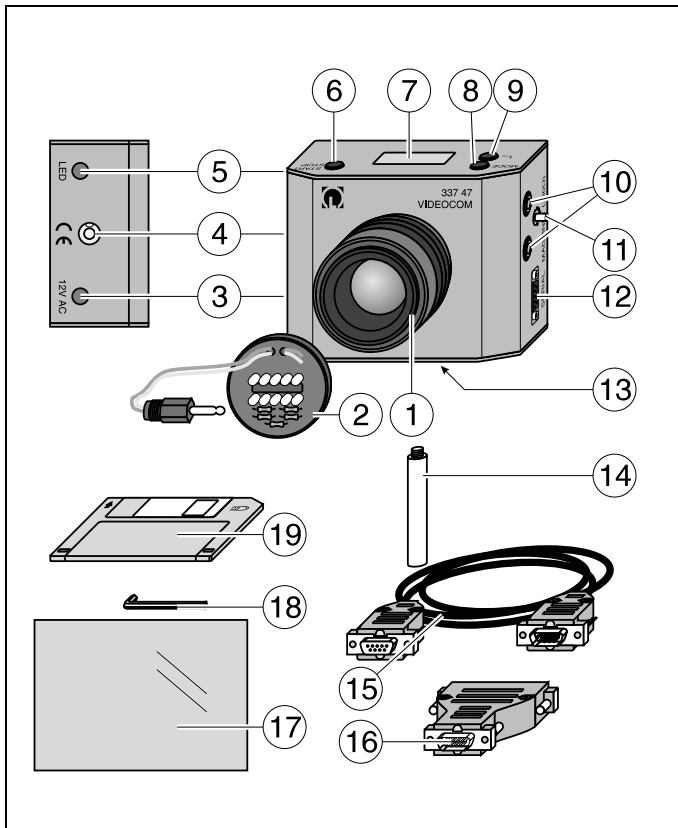

Fig. 2
2.1 VideoCom (337 47), see Fig. 2
- ① 50 mm lens, attached via hex screw on housing
- ② LED flash, for screwing onto lens (adjustable frequency and intensity); connected to jack ⑤
- ③ Connection socket for supply voltage (12 V AC) from plug-in power supply with cannon plug (e.g. 562 791)
- ④ Spirit level for vertical alignment of VideoCom (e.g. for determination of gravitational constant using the falling body (337 472))
- ⑤ Jack for connecting LED flash ②
- ⑥ START/STOP key for starting and stopping the measurement (also possible remote-controlled via computer)
- ⑦ LC display to show settings and adjustment aid
- ⑧ MODE key for selecting the time interval and switching between position and intensity measurement (also possible remote-controlled via computer)
- ⑨ t_{LED} key for manually adjusting intensity of flash (also possible remote-controlled via computer)
- ⑩ Pair of 4-mm safety sockets for connecting a holding magnet